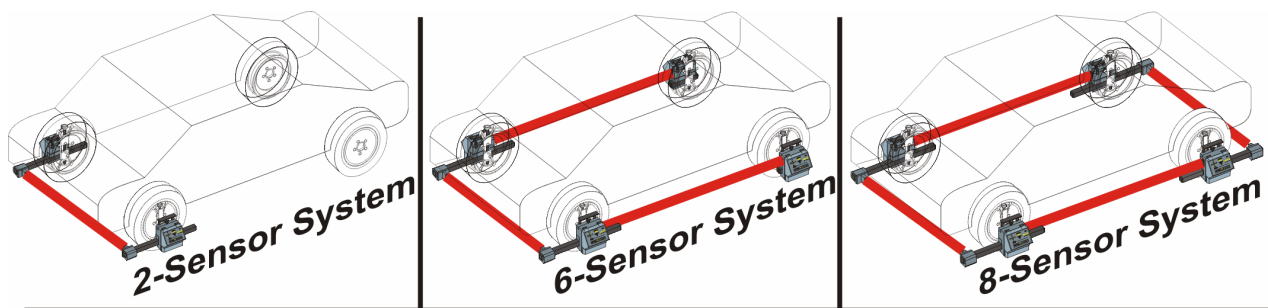

Figure 3-2. Determining Wheel Unit Location – By Sensor Quantity
- 3.1.3 Using Figure 3-2 as a guide, determine the positioning of the wheel units and place wheel units and rim clamps on the ground, under or near each of the tires on the vehicle.